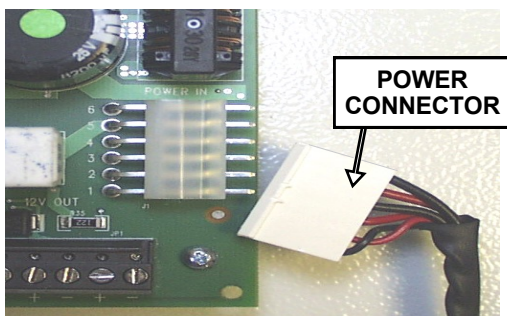

Fig. 1: Remove Power.
1. **Remove power from the SUPER TWO®.** Inside the housing, remove the 6-pin Molex connector marked "Power In" located at the lower-right side of the panel. (see Figure 1 at right). Ensure that all power LEDs are off.